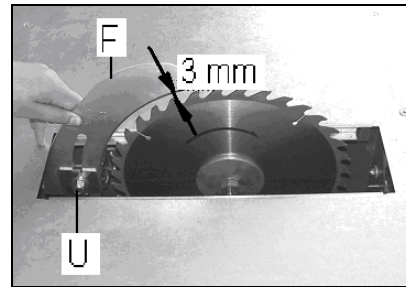

Fig 15
The raving knife (F, Fig 15) is clamped with 1 nut (U).